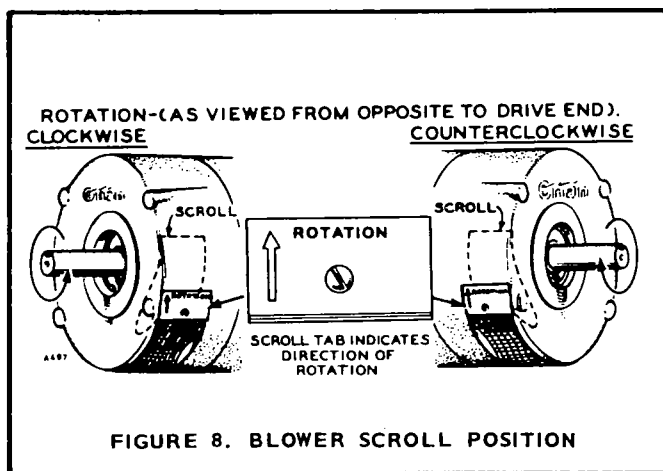

FIGURE 8. BLOWER SCROLL POSITION
GENERATOR COOLING (Fig. 8)
3. Reverse the scroll for clockwise operation. See Fig 8, Reversing the Scroll.